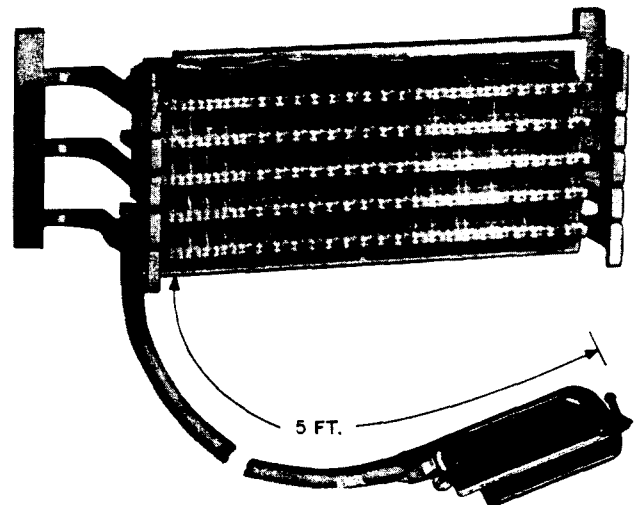

Fig. 2—88-Type Wiring Block With Connector Cable
(3) The second suffix letter denotes color of the wiring block: W—indicating white.
(4) The third suffix numeral assignment is to identify minor design differences resulting from engineering or manufacturing improvement.
(5) The number following the dash indicates the number of pairs that can be terminated.
(6) The letter C following the number of pairs indicates the block is supplied with a factory-wired connector-ended cable 5 feet long (Fig. 2). The blocks are factory-wired to give five multiples for each conductor. On prewired blocks, extra multiples can be provided using the 3-way bridging adapter, KS-19252,L2 (PCP), for no more than ten multiples. Refer to Section 461-200-101 for information on adapters.